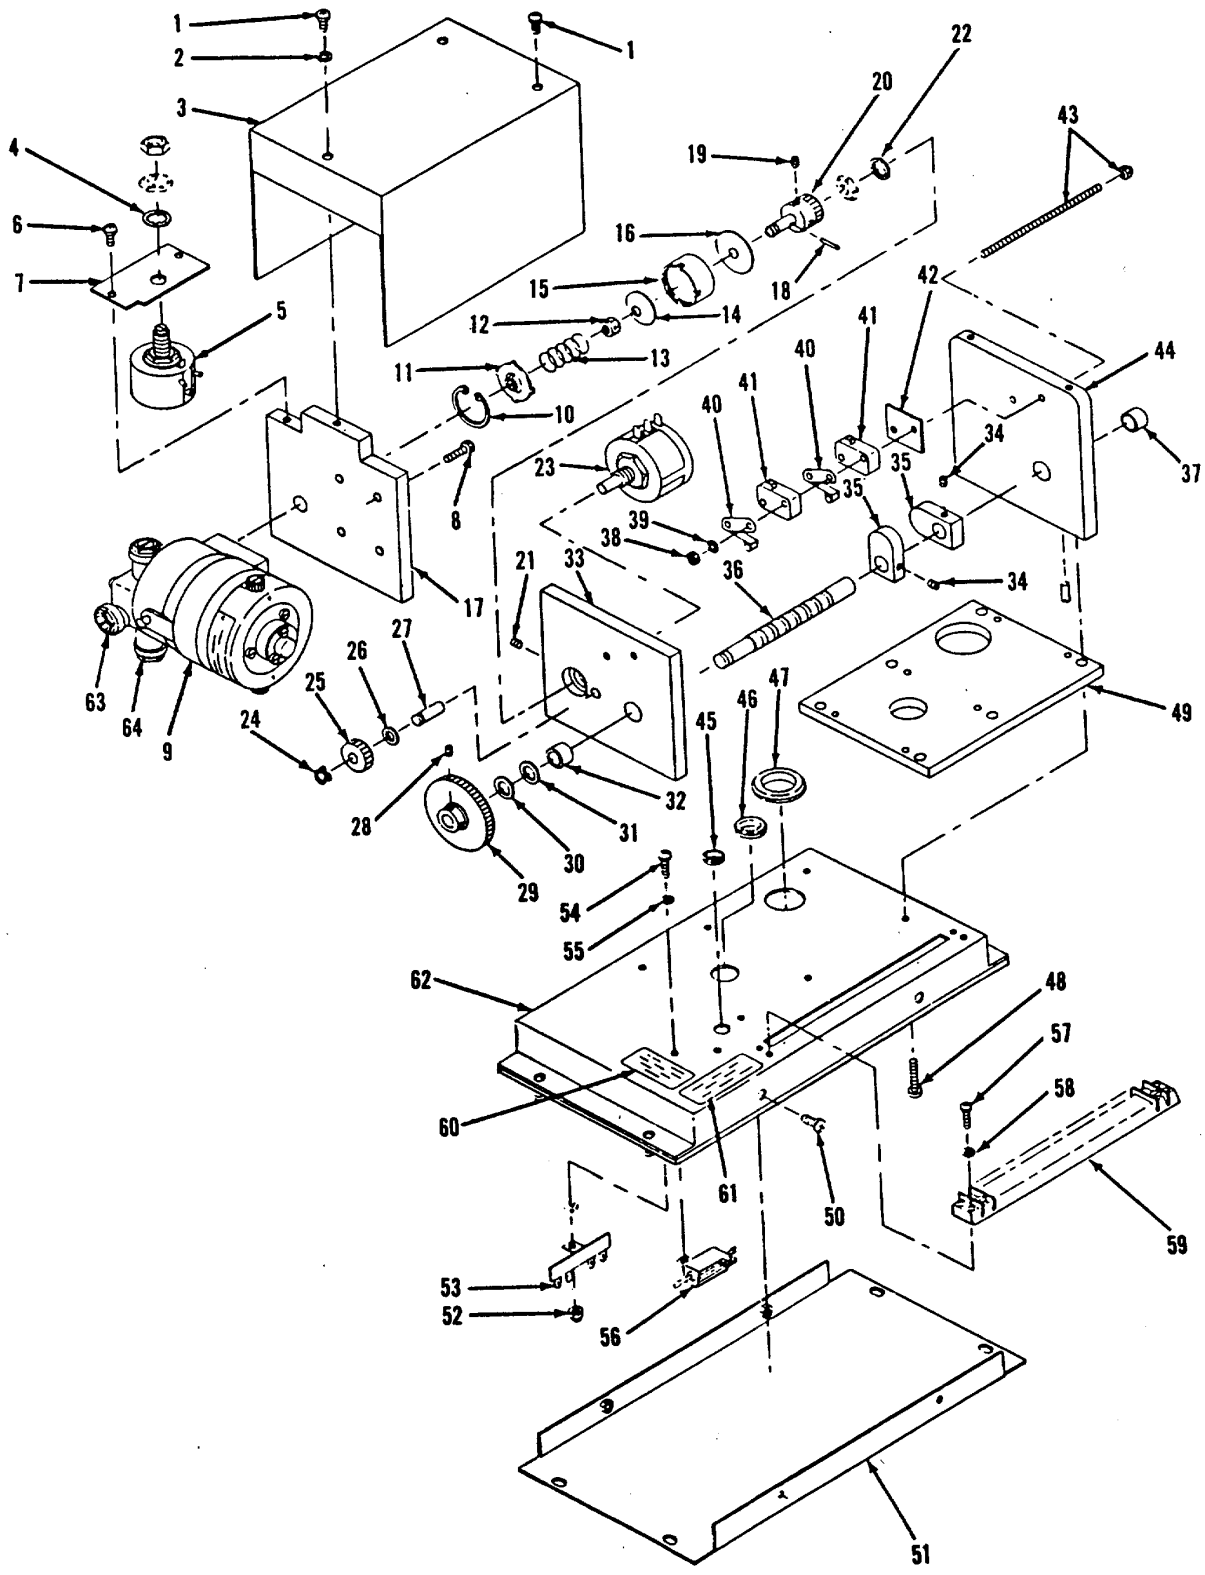
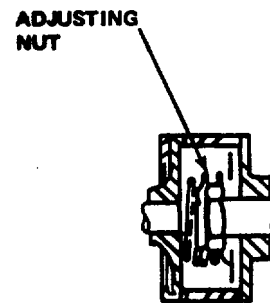

Figure 4-15. Motor Operated Potentiometer, Exploded View
Figure 4-18. Motor-Operated Potentiometers, Clutch Adjustment Nut
- a. Replacement. The two motor operated potentiometers P4 and P5 (2 and 4, figure 4-10), are mounted on the component panel assembly (shelf) (43, figure 4-1) in the AC-DC control box assembly enclosure. Removal for either unit (P4 or P5) (figure 4-15), is as follows:
- (1) When motor M1 (9, figure 4-15) brushes are worn under 0.25 inch (6.4 mm) long, they must be replaced.
- (2) Remove cover (3) by moving three screws (1) and washers (2). Tighten setscrews (19) on gear assembly (20) and setscrews (28) on gear (29).
- (3) Adjust cams A and B in accordance with procedure in paragraph 4-26b (f) and (g).
- (a) With cover (3) removed, remove motor mounting plate (17) and motor (9) by removing two screws (8).
LEGEND FOR FIGURE 4-15
- (b) Remove retaining ring (10) friction cover (11) and spring (13). Elastic stop nut (12) is accessible for torque increase or decrease. Clutch assembly may be removed for torque adjustment by removing set screws (10).
- (b) Remove retaining ring (10) friction cover (11) and spring (13). Elastic stop nut (12) is accessible for torque increase or decrease. Clutch assembly may be removed for torque adjustment by removing set screws (19).
- (4) Adjust clutch (16, figure 4-15) to 20 ± 5 inch-ounce ($0.15 \pm 0.15 \pm 0.04$ joules). Add shims if necessary to reduce looseness between motor shaft and clutch. Adjust torque with nut as shown in figure 4-18. Clutch assembly must be disassembled in accordance with figure 4-15 as follows: